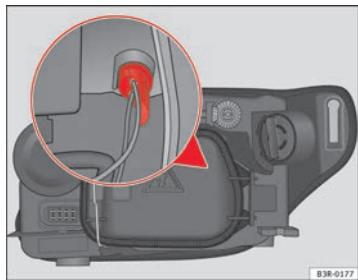

Fig. 221 Side light
- Remove the bulb holder by pulling on the grip ⇒ fig. 221 (it can also be removed by pulling on the bulb holder wires).